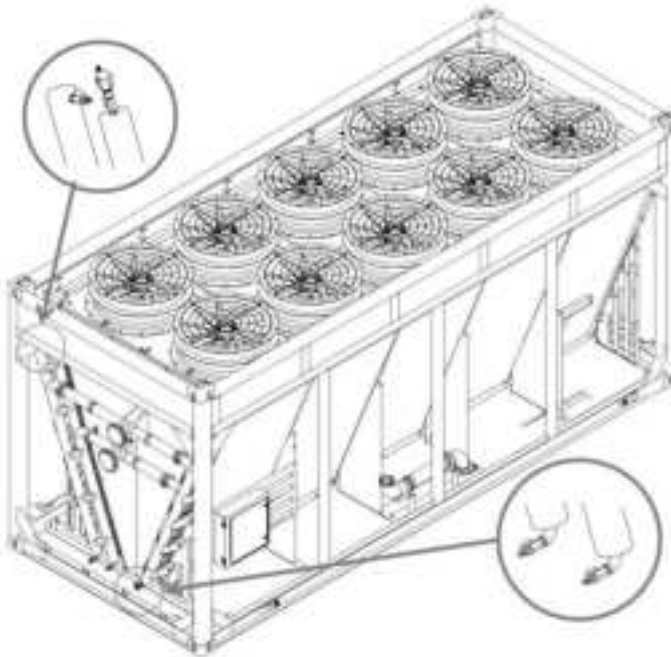

Figure 6-6 Position of automatic exhaust valve and drain valve
- The position of automatic exhaust valve and drain valve is shown in Figure 6-6.